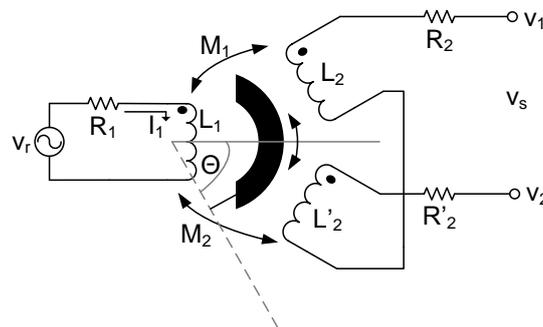
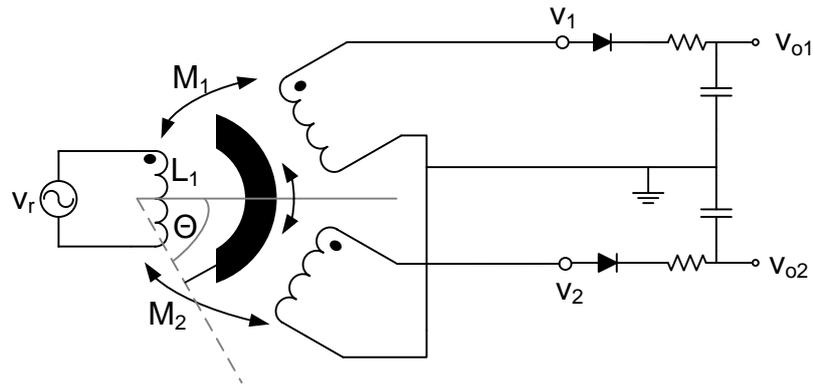

Figure 4: Measuring an angle using an RVDT.
Figure 5: Double-sided rectifier with low-pass filter.
ESP assists a driver to keep a vehicle on the road during dangerous driving conditions. For this purpose, the ESP system uses a large number of sensors in the vehicle. One of these sensors measures the angle of the steering-wheel and steering-column and the speed with which the driver changes this angle (note that one sensor measures both quantities). The RVDT (rotary variable differential transducer) from Figure 4 can be used to measure the angle (and its rate of change). When the driver moves the steer from the central position ($\Theta = 0^\circ$) to the left or to the right, then this will lead to a change in the output voltage of the sensor. This electrical signal can then be sent to the ESP computer. The primary winding of this RVDT is connected to a voltage supply that produces a sinusoidal voltage with an amplitude of 5V and a frequency of 10 Hz. The RVDT has a sensitivity S of $500 \mu\text{V}/(^{\circ}/\text{V})$. The output voltage of the RVDT is equal to:
- (4p) (a) Is the RVDT shown in Figure 4 when used to sense a rotation an example of a complex sensor? (Explain your answer)
- (4p) (e) The output signal of the RVDT shown in Figure 4 is connected to a double-sided rectifier with a low-pass filter as is shown in Figure 5. Draw the output voltage, $v_{o2} - v_{o1}$, when the steering wheel is moved in 0.5 seconds from an angle $\Theta = +15^\circ$ to an angle $\Theta = -15^\circ$.